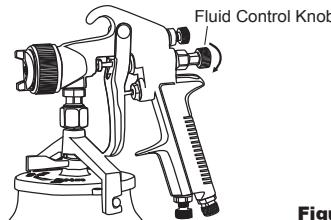

Figure 5
- Turn the fluid control knob fully clockwise until closed. (See Figure 5)